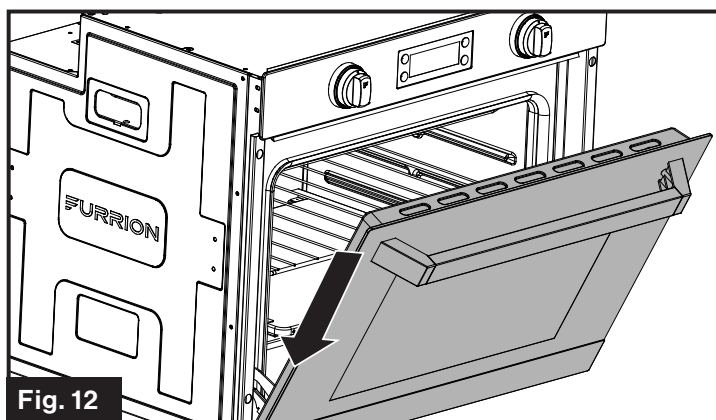
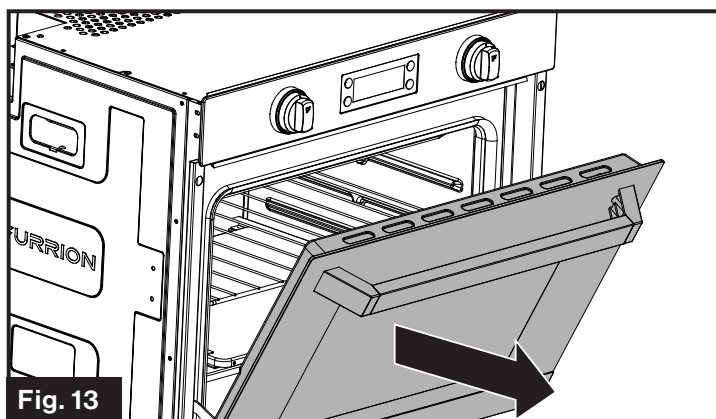

Fig. 12
Fig. 13
5. Holding the door firmly on both sides and using both hands, pull the door straight out of the hinge slots. (Fig. 12, Fig. 13 and Fig. 14) Hold firmly, the door is heavy.